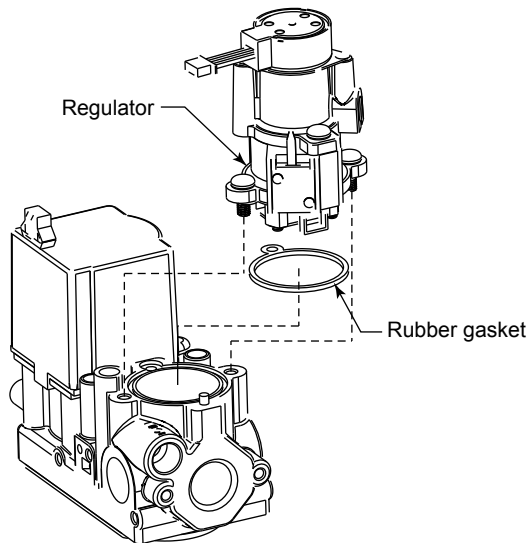

Fig. 85
- Using Torx T20 driver or slotted screwdriver, remove and discard the regulator and rubber gasket in the face of the valve. Figure 85
- Install the new regulator with rubber gasket from the conversion kit. Make sure the gasket is seated properly. Figure 85